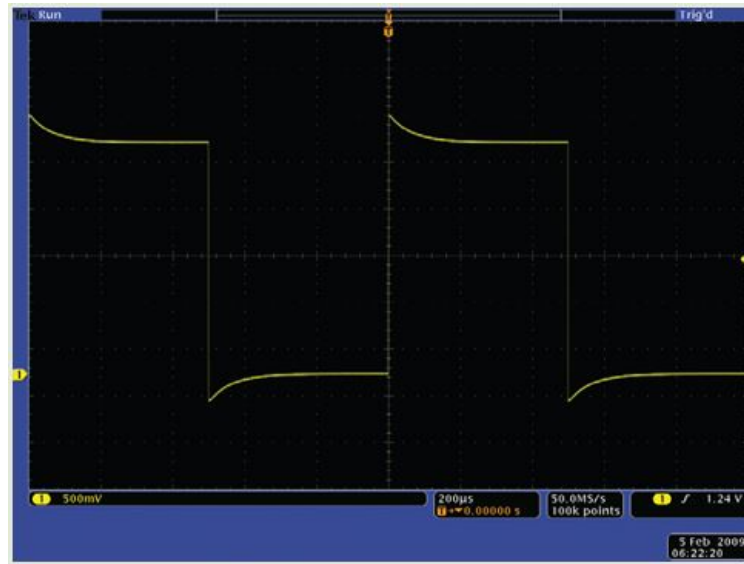

Figure 1.3: Probe Adjustment Signal
3. The Probe Adjustment Signal as seen in **Figure 1.3** represents a: